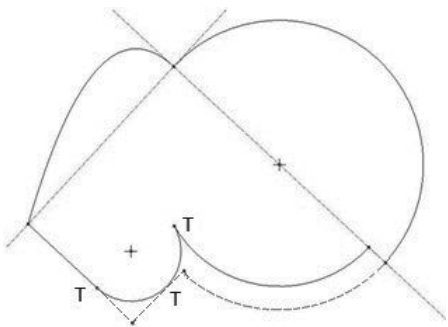

Figure 3-37 Tangent and Divide
Step 40: Remove the unwanted lines as shown in Figure 3-37. Use the *undo* tool, , if you accidentally erase the wrong line segment.
Step 41: Figure 3-37 is a bit weird looking, but it does demonstrate the use of some of sketcher's tools. Draw an imaginary box around the figures, then press the <Delete> key to clear the screen.